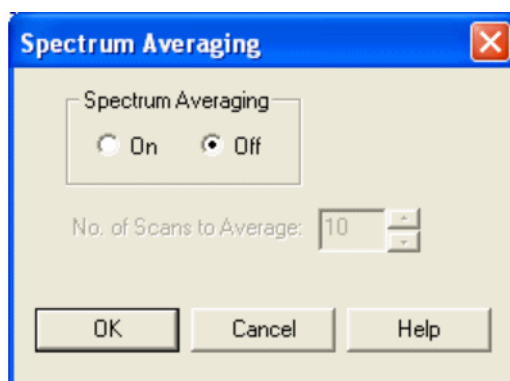

Figure 2-9. Spectrum Averaging dialog box
1. In the Tune Plus window, choose Display > Spectrum Averaging > **Settings...** to display the Spectrum Averaging dialog box. See Figure 2-9.